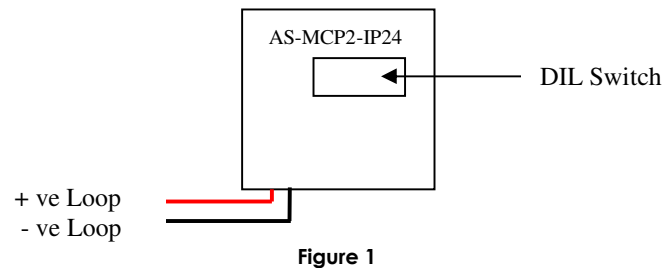

Figure 1
4. Make the Loop connections as shown in figure 1 below, using the mating connectors provided. **NOTE:** Loop end plugs can be connected together for initial cable testing.